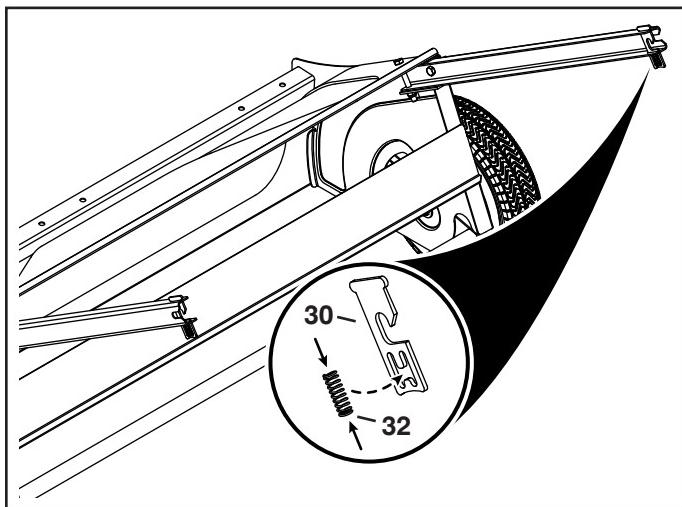

FIGURE 3
3. Slide a pivot rod retainer (30) into each end of the bag arm channels. See figure 3.
4. Insert a compression spring (32) into the bottom of each of the pivot rod retainers to secure them to the bag arm channels. See figure 3.